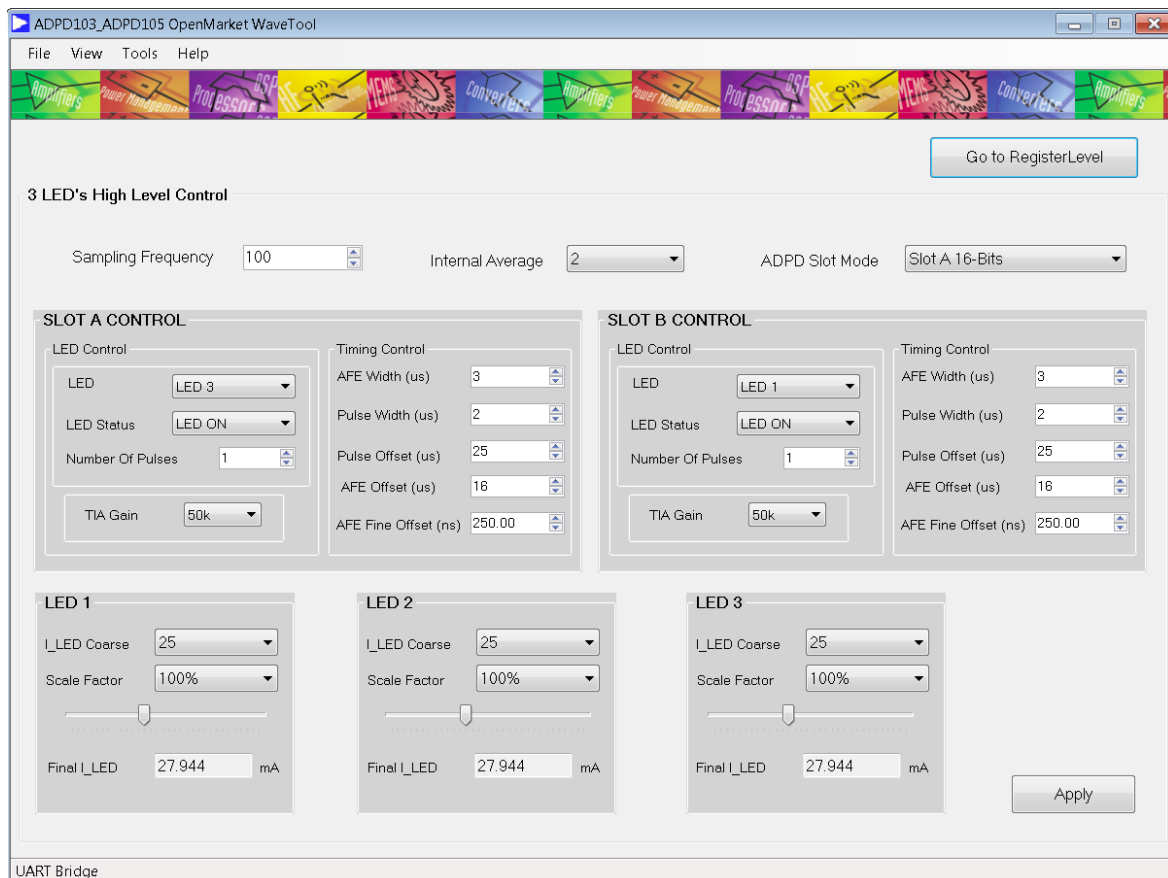

Figure 16. HighLevel Window
Figure 16 shows the ADPD103_ADPD105 OpenMarket WaveTool HighLevel configuration window. This window offers an entire set of high level parameter controls. The configurable parameters are as follows:
- **Internal Average** (identical for both timeslots in the ADPD105)—controls the output data rate, which is equal to the sampling frequency divided by the internal average. For example, a sampling frequency of 400 Hz and an internal average setting of 4, as shown in Figure 16, results in an output data rate of 100 Hz.